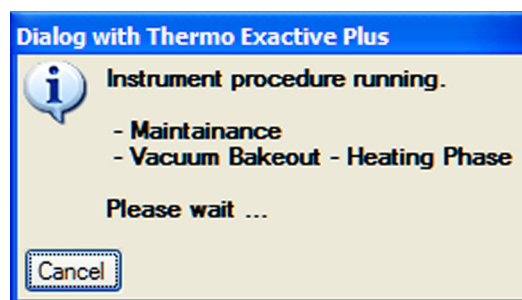

Figure 8-3. Message box: Vacuum Bakeout active
5. The dialog box disappears and the baking procedure starts. The instrument indicates the active bakeout procedure by a flashing Vacuum LED. (See Figure 3-3 on page 3-7.) Additionally, the Tune software displays a corresponding message box. See Figure 8-3.